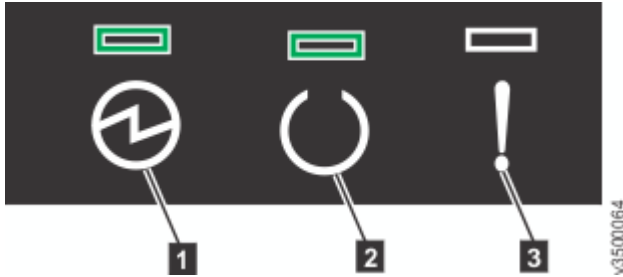

Figure 27. Expansion canister LEDs
- Step 2. From the rear of the expansion enclosure, check the LEDs on each expansion canister (see Figure 27 “Expansion canister LEDs” on page 28).